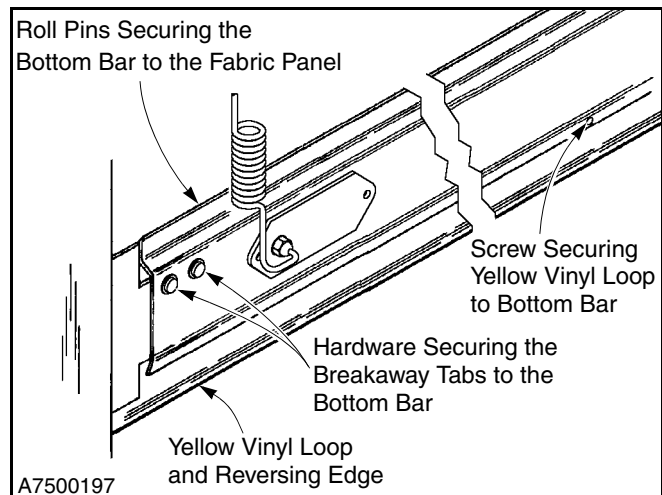

Figure 17
1. Inspect the roll pins securing the bottom bar to the fabric. It is critical that hardware is tight to prevent shifting of the fabric in the bottom bar. (See Figure 17.)